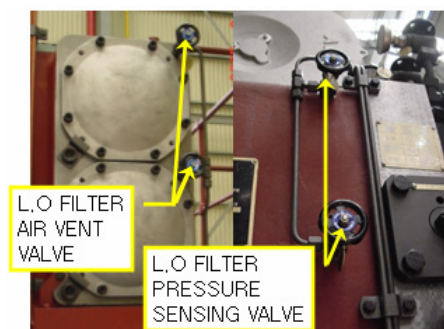

Fig. 1
1. Open the pressure sensing valve and the air vent valve of the stand-by filter chamber for air ventilation. [Fig. 1]